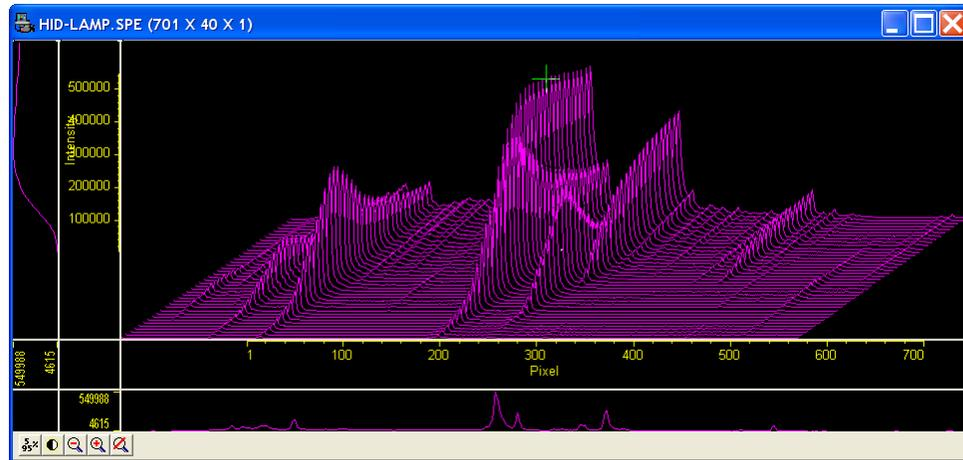

Figure 56. Hid-lamp.spe 3-D Graph
6. Click on **OK**. The **Display Layout** dialog will close and the data display, exclusive of the intensity profiles, should appear as shown in Figure 56. Each strip is displayed as a plot of intensity vs. pixel number. The first strip is at the front and the last strip is at the back. Initially the cursor will be at the lower left. Use the up arrow key to move to a higher numbered strip and the right arrow key to move to a higher numbered pixel on the strip. Then click the Intensity Autoscale key to scale the intensity profiles. *Note that clicking the mouse button at different points on the display will change the pixel selection but not the strip.*
8. Note the cross-sectional displays in Figure 56. The vertical cross-section profiles the intensity at the same point on each successive strip. The horizontal cross-section profiles the intensity at each point on the same strip. If the large cursor is selected, cursor projections will intersect the cross section to show indicate the cursor position. These projections may not be visually aligned with the cursor position on the main plot. This effect will be particularly noticeable with a long Z axis. Because of perspective effects, the higher numbered strips will be further away and visually smaller. The axes automatically adjust so that they read true for the strip on which the cursor is located. However, because the cross-section profiles expand to use all of the available space, they will not be in alignment visually with the cursor. The profile shapes will be correct, and the point on the profiles intersected by the large cross-hair extensions will accurately indicate the cursor position. Also, the information box will accurately report the pixel number and intensity at the cursor position.